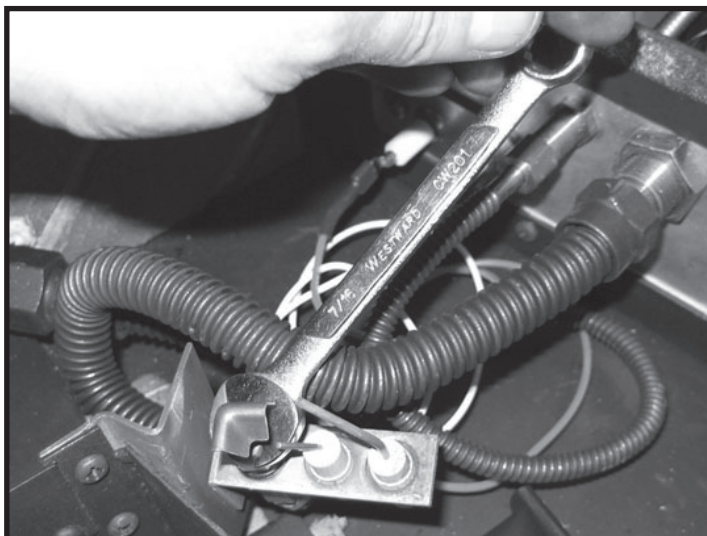

Figure 21: Loosening the pilot head.
8. With a 7/16” wrench loosen the pilot head on the pilot assembly by a half-turn (Figure 21)